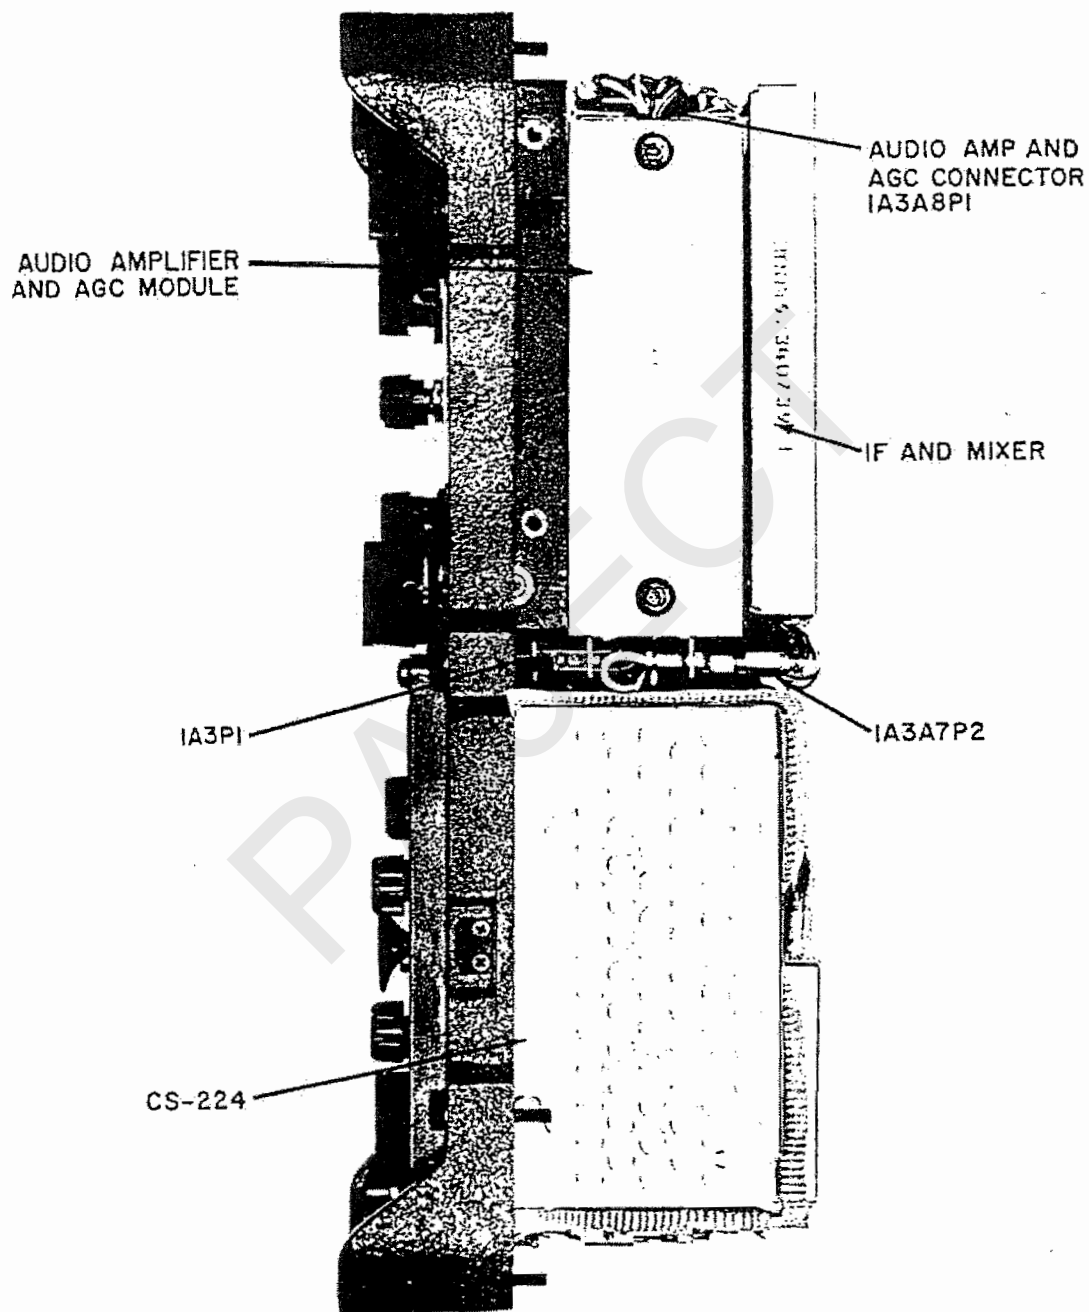

Figure 5-7. RR-224 Module Location (top side view)
- (1) Remove the module cover (figure 5-7).
- (3) Disconnect the module plug by loosening the two securing screws (figure 5-7).
- (4) Replace the module cover (figure 5-7).